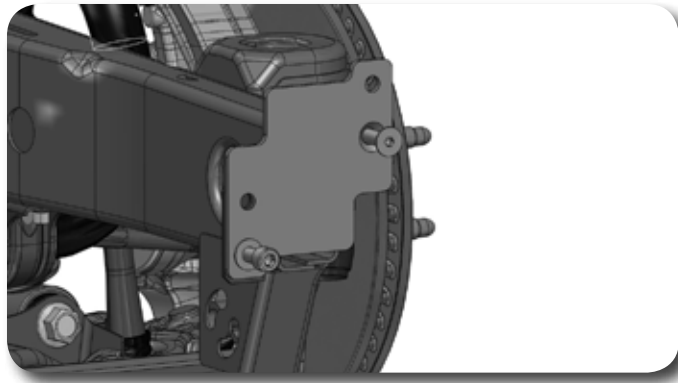

Figure 15
44. Using the provided 10mm flat head bolt in the outside upper hole and the socket head bolt in the lower hole, attach the bumper brackets to the frame. See Figure 15